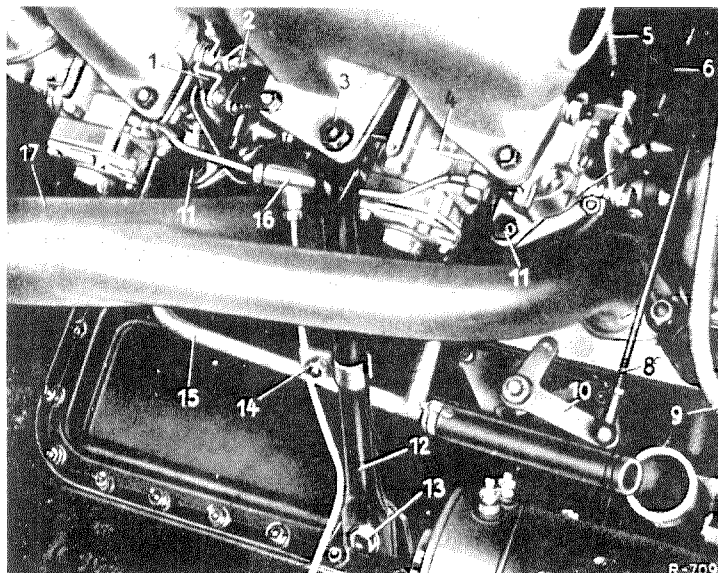

Fig. 07-0/51
When the engine is not running, the fuel accumulating in stage 1 of both carburetors runs off through the fuel outlet line (16) and ensures that the engine will start properly when hot. The arrangement of the fuel suction line and the fuel outlet line for the die-cast carburetors is shown in Fig. 07-0/51.